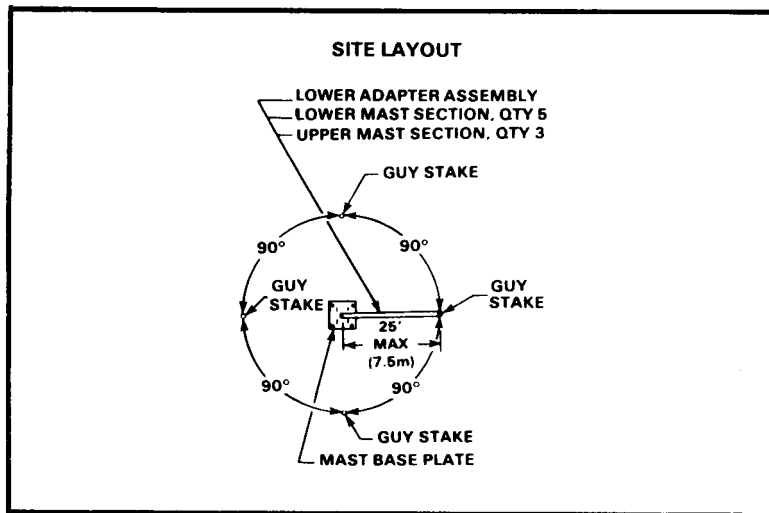

Figure 3-3. Positioning guy stakes.
- b. Drive the stake of the mast and base assembly (Figures 3-3 and 3-4) through the center hole of the base plate with the hammer.
- g. Walk the assembled mast around the mast and base assembly. Drive the guy stakes as shown in Figures 3-3 and 3-4.
- h. Return the mast and base assembly to the alignment shown in Figure 3-3.